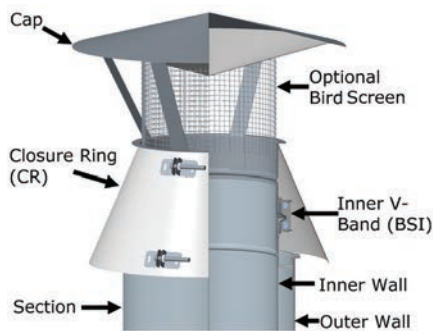

Figure 68 - Rain Cap (RC) installed
The Rain Cap combine partial protection against rain entry with low exit flow resistance (resistance is roughly 0.5 velocity heads). It is mounted to the end of a standard pipe section by use of the standard Inner V-Band (BSI). See Step 1 to 4 in the **JOINT ASSEMBLY Section**. It is a single wall assembly (for all Models SCL, CAX1, CIX1, CIX2 and CIX4), but a Closure Ring (CR) is provided as part of the Rain Cap so that the insulating space is protected through the upper end of the chimney. The CR must be seal to the inner wall with outer Sealant **S-375**. See **Figure 68**.